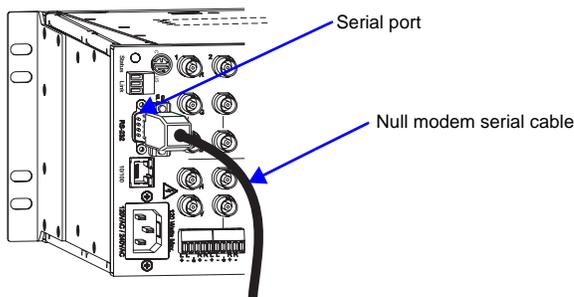

FIG. 7 Attach null modem serial cable
1. Plug the null modem cable into the serial port on the enclosure (see FIG. 7).